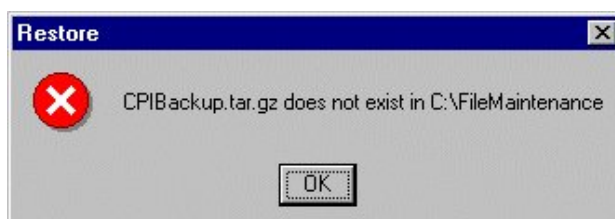

Figure 1-12 CPI Backup Directory Error Message
6. If the ***CPIBackup.tar.gz*** file is not at the location defined in the previous step, the following error message is displayed in Figure 1-12: